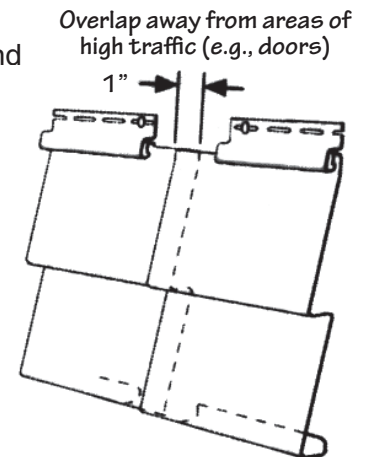

Figure 37.
- When panels overlap, make sure they overlap by one half the length of the notch at the end of the panel, or approximately 1" (25.4mm) (Fig. 37).
- Always overlap joints away from entrances and/or away from the point of greatest traffic. This will improve the overall appearance of the installation (Fig. 37).